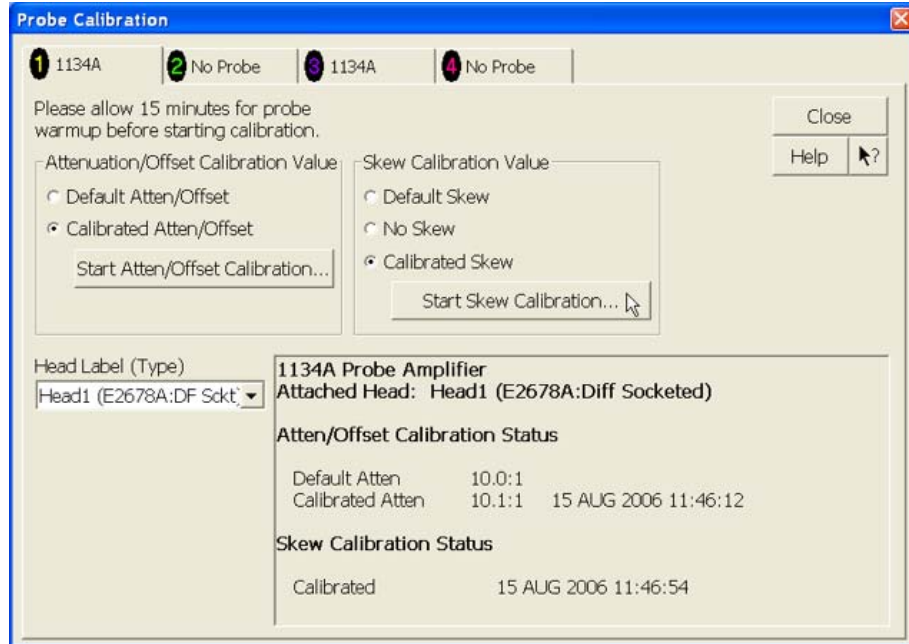

Figure 89 De-skew Connection.
- 1 Referring to Figure 89 below, perform the following steps: